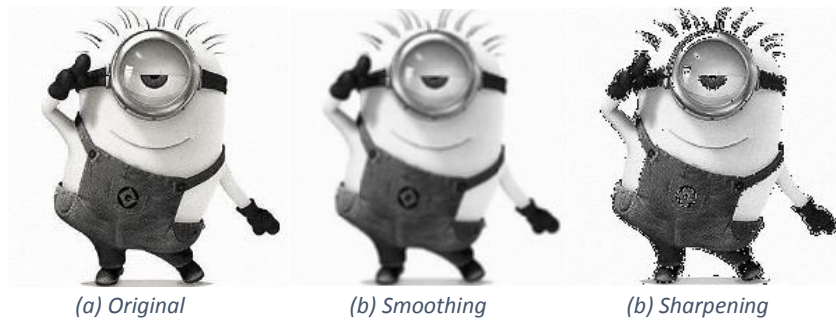

Figure 4. Smoothing and Sharpening Results with Custom Baseline filter
- We implemented the low-pass (smoothing) filter using image blur algorithm to smoothen the image and mitigate noise. The design is reconfigurable and the high-pass (sharpening) filter can be easily achieved by adjusting parameters of the image processing masks. An example has been attached below in Figure 4.